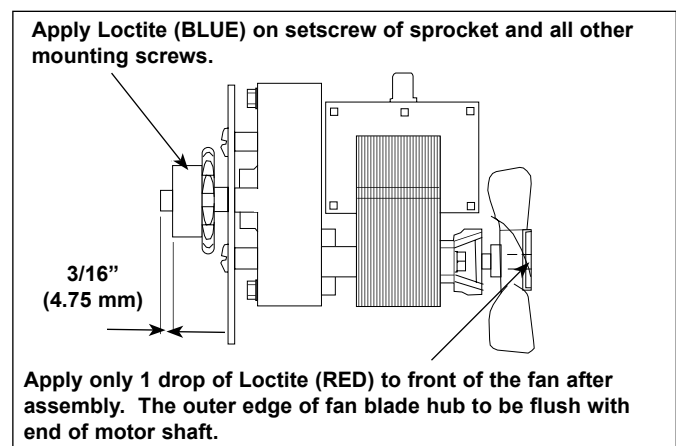

Figure 11. Replacing Drive Motor and Fan Blade
**NOTE: Be sure sprocket setscrew is positioned on the flat of the gear reducer shaft. Maintain the 3/16" dimension as shown in Figure 11. Apply Loctite (Blue) to threads of setscrew and tighten securely.**